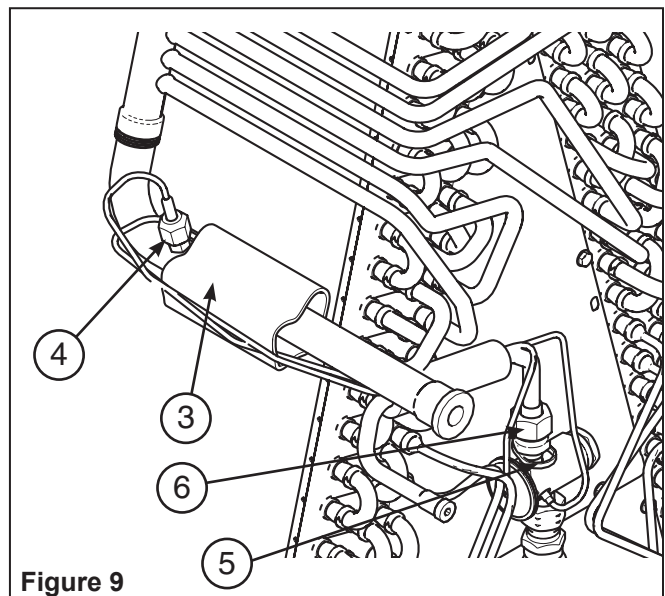

Figure 9
3. Remove the sensing bulb from the vapor line by removing the bulb insulation and hose clamp (Figure 9).
4. Using a back-up wrench, loosen the external equalizing coupling (Figure 9).
5. Cut the wire tie around the TXV body and remove from coil (Figure 9).
6. Using a back-up wrench, loosen the mechanical fittings. Remove the TXV (Figure 9).